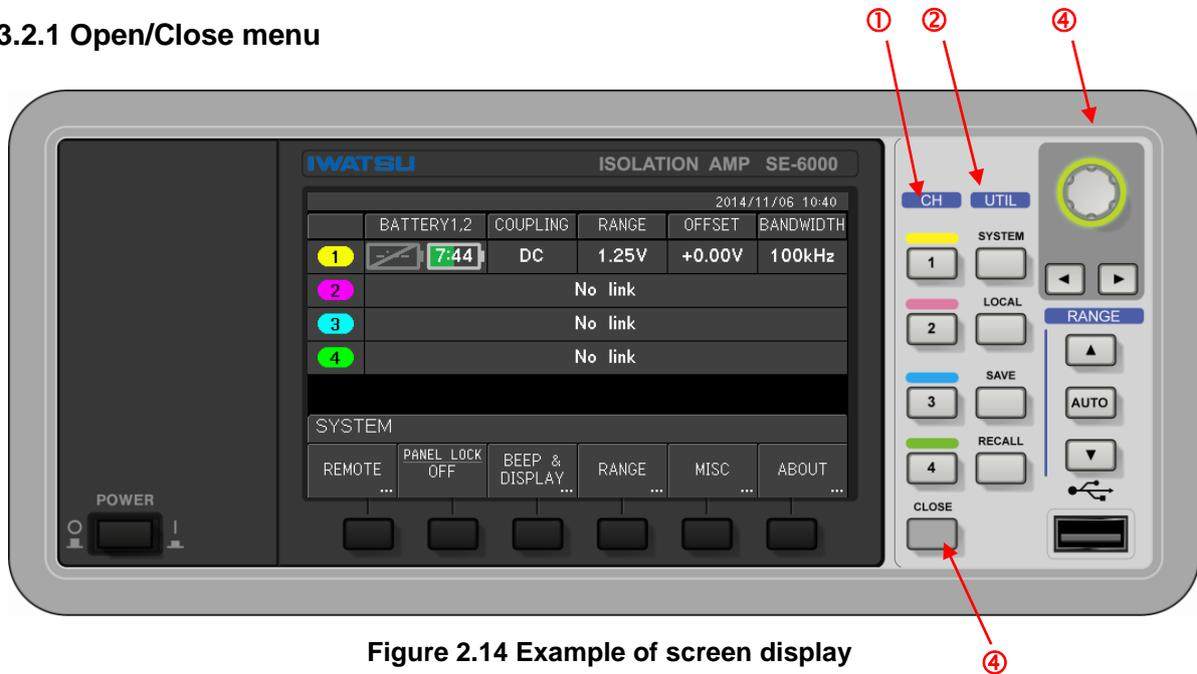

Figure 2.14 Example of screen display
Procedures using the menu screen are explained below in accordance with the example of the SYSTEM menu screen shown in Figure 2.14.
- 1) Press the [CH1] key shown in Figure 2.14. The CH1 menu opens as shown below.
- 2) Pressing the [SYSTEM] key shown in Figure 2.14 in the 1) opens SYSTEM menu as shown below.
4) Press the [CLOSE] key or the rotary knob shown in Figure 2.14 on the previous page in the BEEP & DISPLAY submenu shown below.